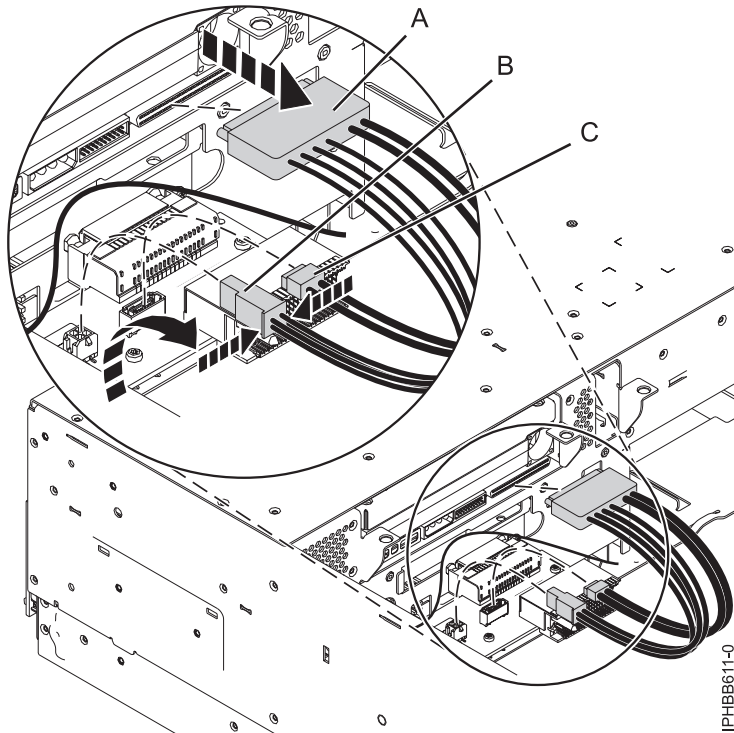

Figure 5. Disconnecting the media device cables from the disk drive backplane
10. Disconnect the cables from the back of the disk drive backplane, as shown in Figure 5 on page 7. If you have connected an external SAS cable, ensure that you disconnect the SAS cable from the disk drive backplane. For more information about external SAS port, refer to Installing the external SAS port on a model 8233-E8B or 8236-E8C.